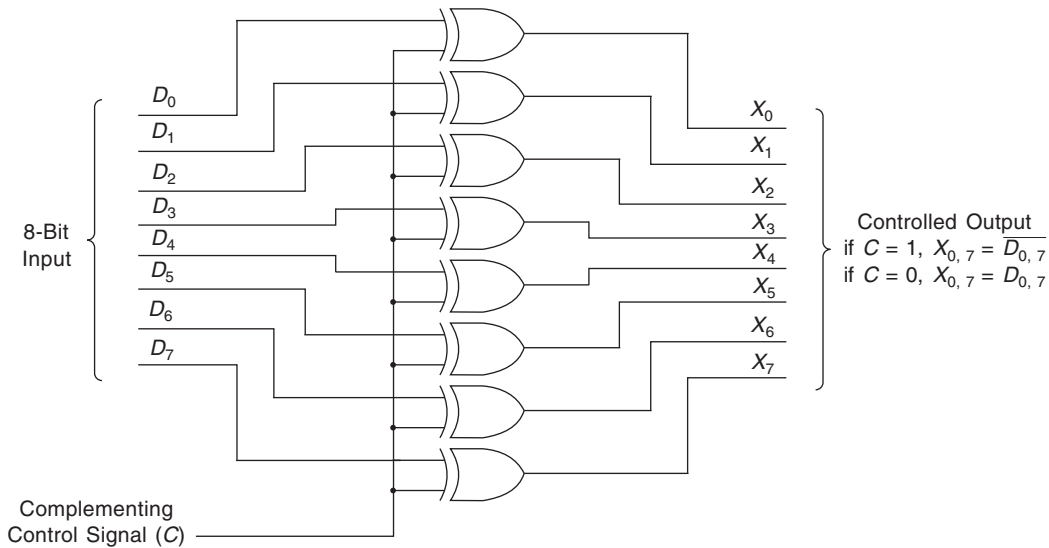

Fig. 10.28 Controlled Inverter (Complementing) Circuit.
Often in binary arithmetic circuits we need to have a device that completes an entire binary string when told to do so by some control signal. Figure 10.28 shows a controlled inverter. When INVERT is LOW, it transmits the 8-bit input to the output; when INVERT is HIGH, it transmits the 1's complement. For instance, if the input number is
Figure 10.28 can be used to provide the complementing function. If the INVERT (C) is HIGH, each of the data bits is complemented at the output. If the INVERT (C) is LOW, the data bits pass through to the output uncomplemented. Two 7486 quad Ex-OR ICs could be used to implement this design.
To form negative two's complement, we can use the controlled inverter circuit of Fig. 10.28 and add 1 to its output.